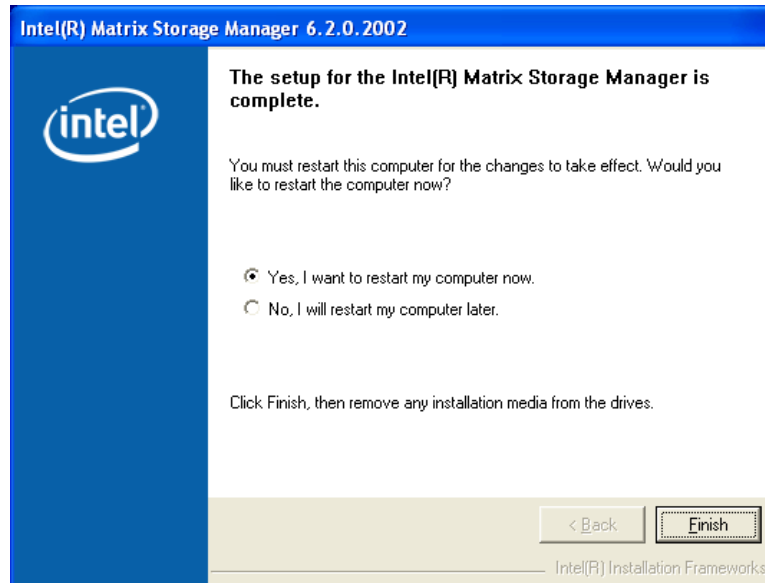

Figure 7-39: Matrix Storage Manager Setup Complete
Step 12: After the driver installation process is complete, a confirmation screen appears (Figure 7-39).